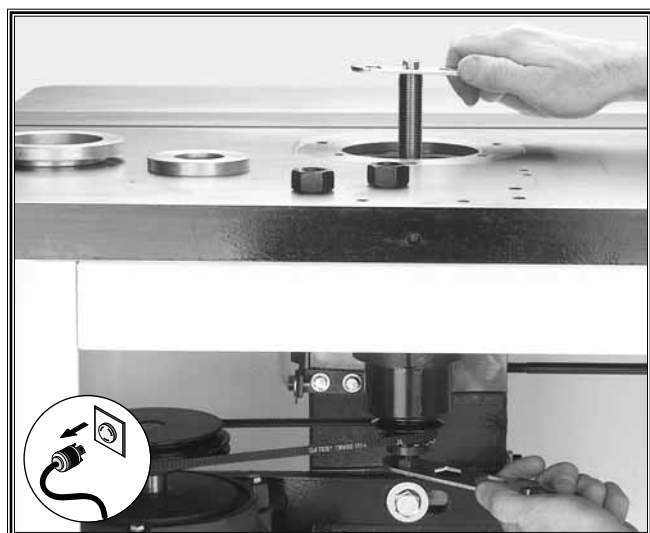

Figure 21. Tightening the drawbar nut onto the end of the drawbar.
- **For shaper spindles:** Place the spindle wrench on the top end of the spindle. Using a 15mm open-end wrench, tighten the drawbar nut while holding the spindle wrench secure as shown in **Figure 21**. DO NOT over-tighten the drawbar nut.